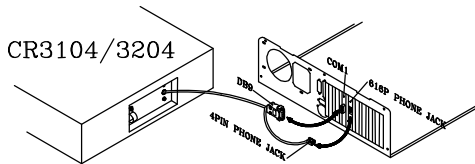

Fig 3
3.Connect the DB-9 connector to the computer's serial port of COM1 (or COM2). Connect the 4P phone plug connector to the added I/O bracket. See **Fig3**.